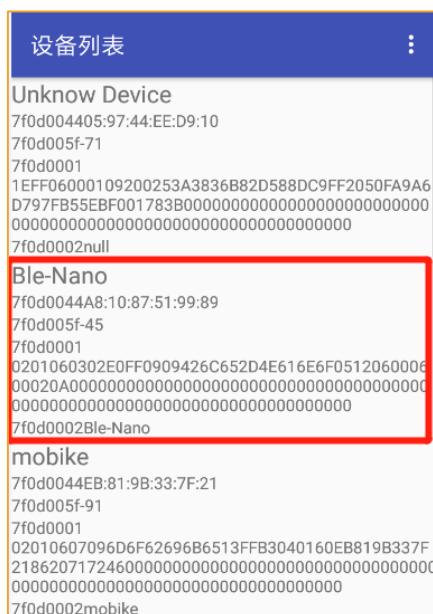

图 1.13
- 3) Install ble_tool.apk on the phone and open the test APP. The interface is shown in figure 1.13. Find the corresponding bluetooth name (Ble-Nano) and click to connect. After connection, as shown in figure 1.14, four options will appear to test different functions, respectively. Because here we only test whether bluetooth can send and receive data normally, so we select SK Service and select SK_KEYPRESSED as shown in figure 1.14 and 1.15